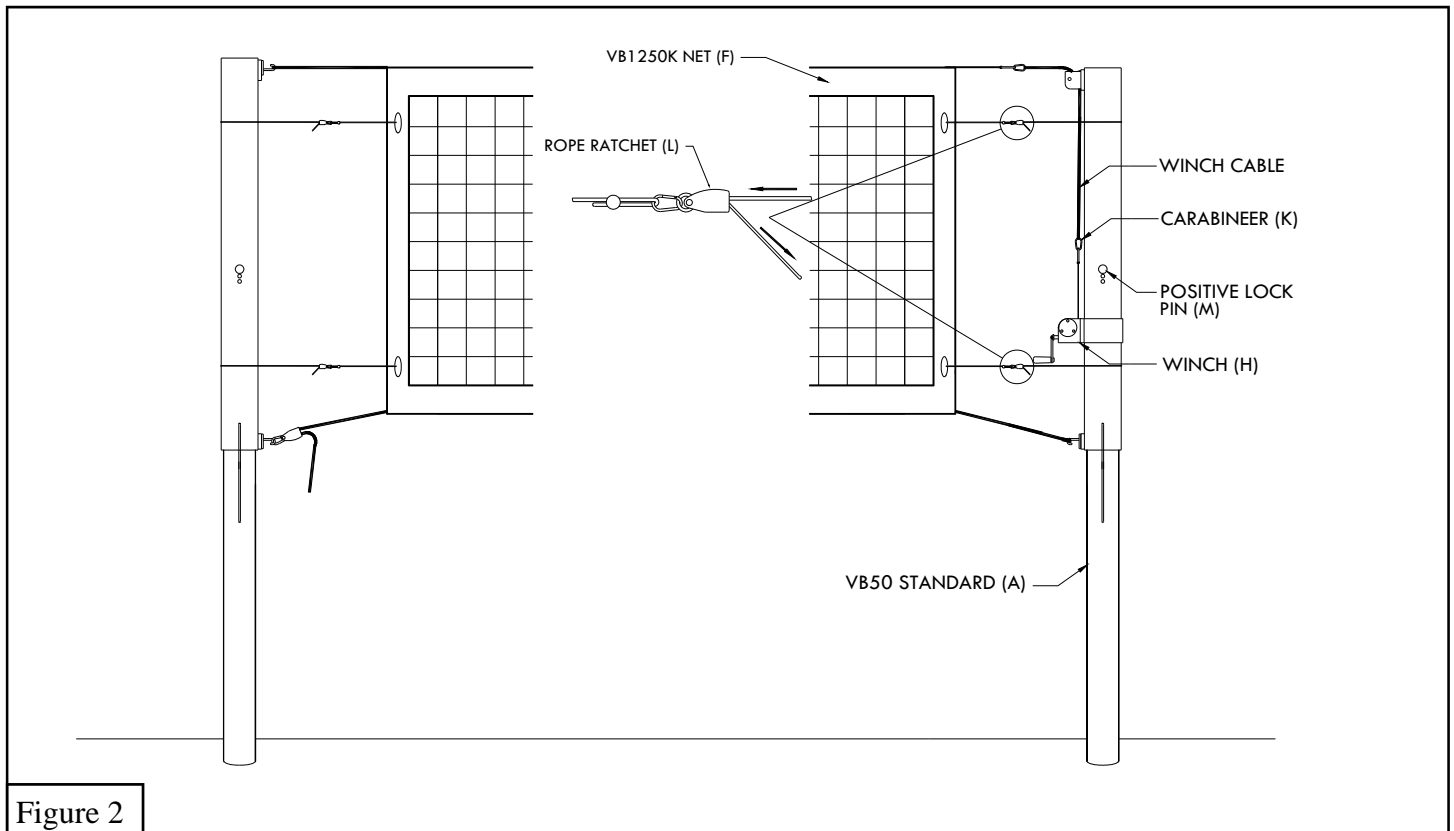

Figure 2
3. Lay the *VB1250K Net* (F) out, find the end with the factory installed rope ratchet device on the bottom rope. Install the opposite end of the *VB1250K Net* (F) to the non-winch *VB50 Standard* (A) by attaching the top loop of the *VB1250K Net* (F) onto the *Net Hook* (I). Attach the other end of the *VB1250K Net* (F) to the cable attached to the *Winch* (H). See Figure 2.
4. Turn the *Winch (H)* handle tightening the top rope of the system to eliminate the slack in the rope. Center the *VB1250K Net (F)* between the two *VB50 Standards (A)*. Finish tightening the top rope using *Winch (H)* and pull the loose end of the bottom rope through the *Rope Ratchet (L)* to tighten the bottom rope. See Figure 2.
5. Install the *Rope Ratchet (L)* kit by running the rope through the small holes in the sides of the *VB1250K Net (F)* and around the *VB50 Standards (A)* connecting them to the *Rope Ratchet (L)* device and then tighten all four devices evenly to achieve desired *VB1250K Net (F)* tension and maintain proper *VB1250K Net (F)* placement between the *VB50 Standards (A)*. See Figure 2.
7. If not at the correct height, compute how much higher or lower then loosen the *VB1250K Net (F)* on the *VB50 Standards (A)* and proceed to step #8.
8. Adjust outer pole up/down in the series of positive lock pin holes as needed to achieve the correct *VB1250K Net (F)* height. Repeat steps 1-7 as needed at this time to insure *VB1250K Net (F)* is the height you desire. Fine tuned height modifications can be made by tightening or loosening *Winch (H)* and/or adjusting the tension on the side *Rope Ratchets (L)*. See Figure 2.
2. Crank top rope on the *VB1250K Nets (F)* tight with the *Winch (H)*, then pull bottom rope on the *VB1250K Net (F)* tight through the *Rope Ratchet (L)*.
3. Attach *Rope Ratchets (L)* around *VB50 Standard (A)*, hook ends together, center *VB1250K Net (F)* between *VB50 Standards (A)* and apply desired tension. See Figures 2 and 3.